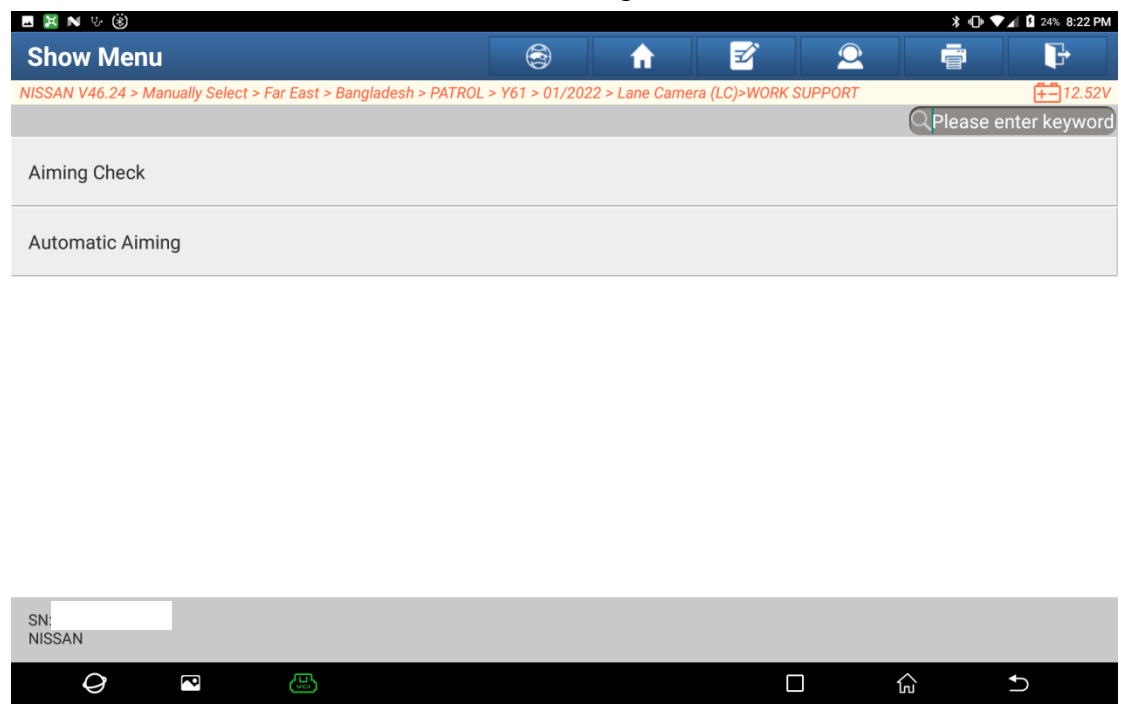

Figure 19
19. Choose whether to save the ADAS report based on user needs. If you need to save the ADAS report, click [OK]; otherwise, click [NO]. After making the selection, return to the interface. See Figure 19.